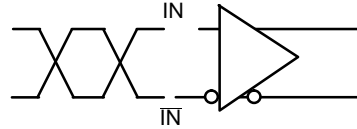

Figure 6. Differential Inputs Driven Differentially
**DIFFERENTIAL INPUTS DRIVEN DIFFERENTIALLY** (Figures 6 & 8) (Note 13)
**DIFFERENTIAL INPUTS DRIVEN DIFFERENTIALLY** (Figures 6 & 8) (Note 19)